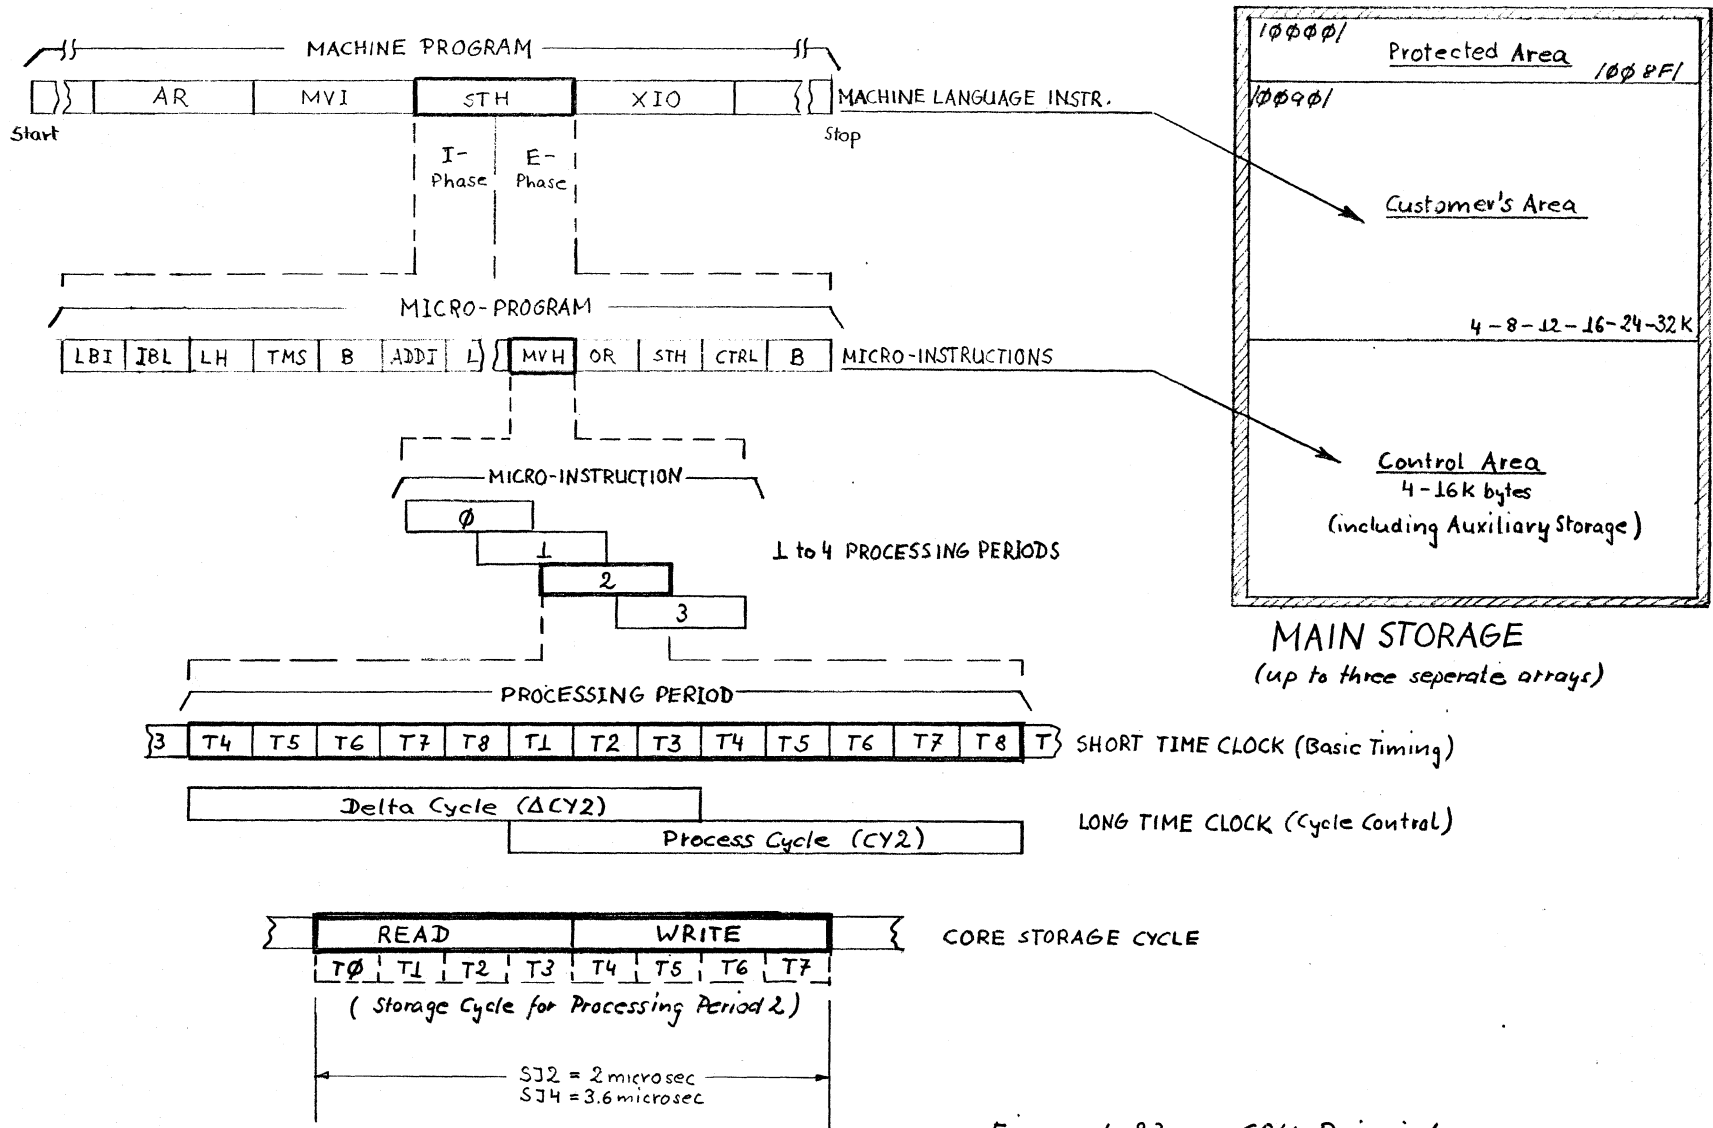

Figure 1-23 CPU Principles
- The principles are shown in figure 1-23.
In order to solve a customer's problem, machine language instructions are linked to build a program (Figure 1-23). This machine program is loaded and stored in main storage. Machine language instructions are performed in series.